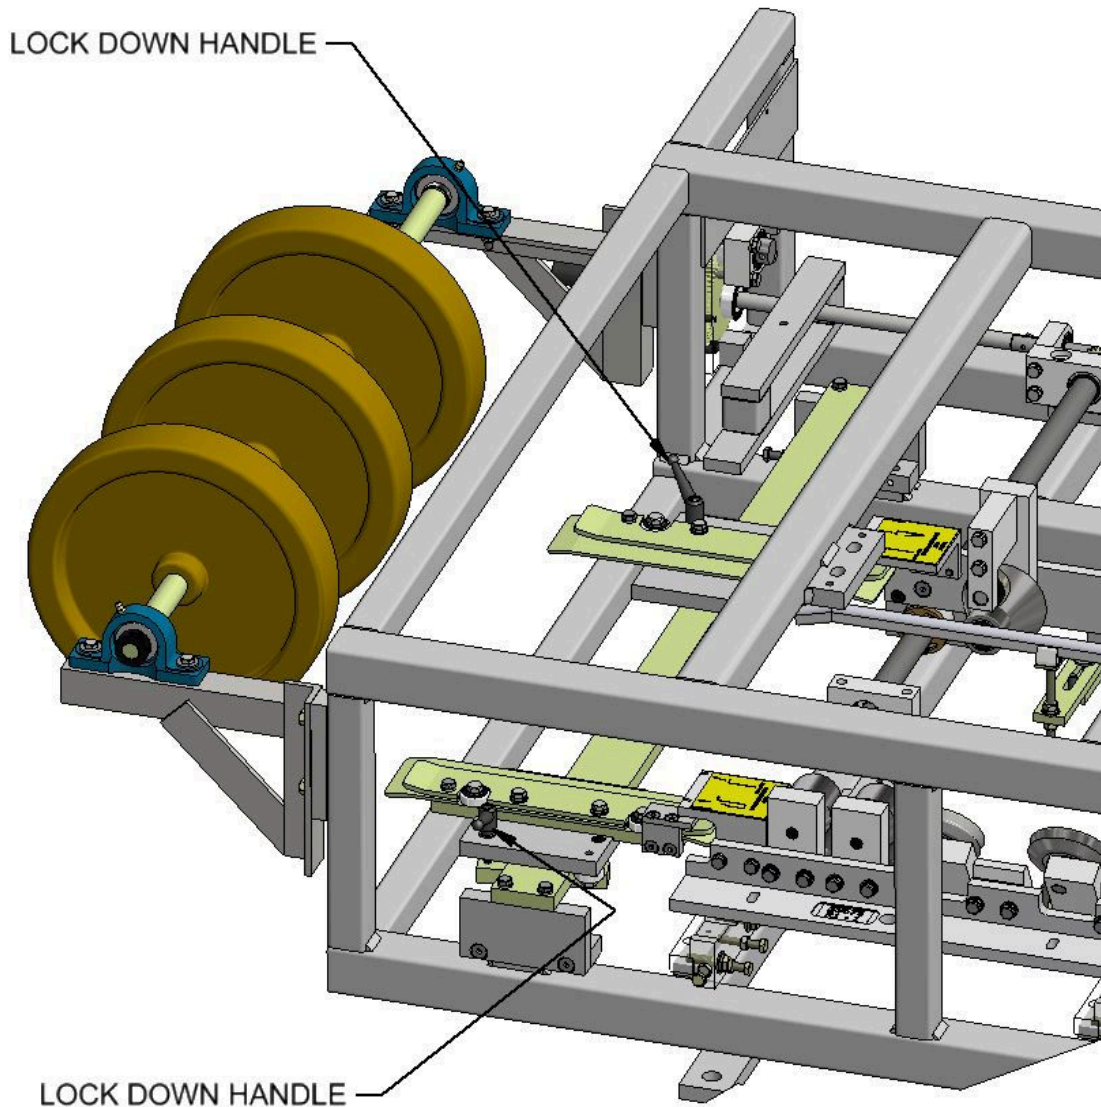
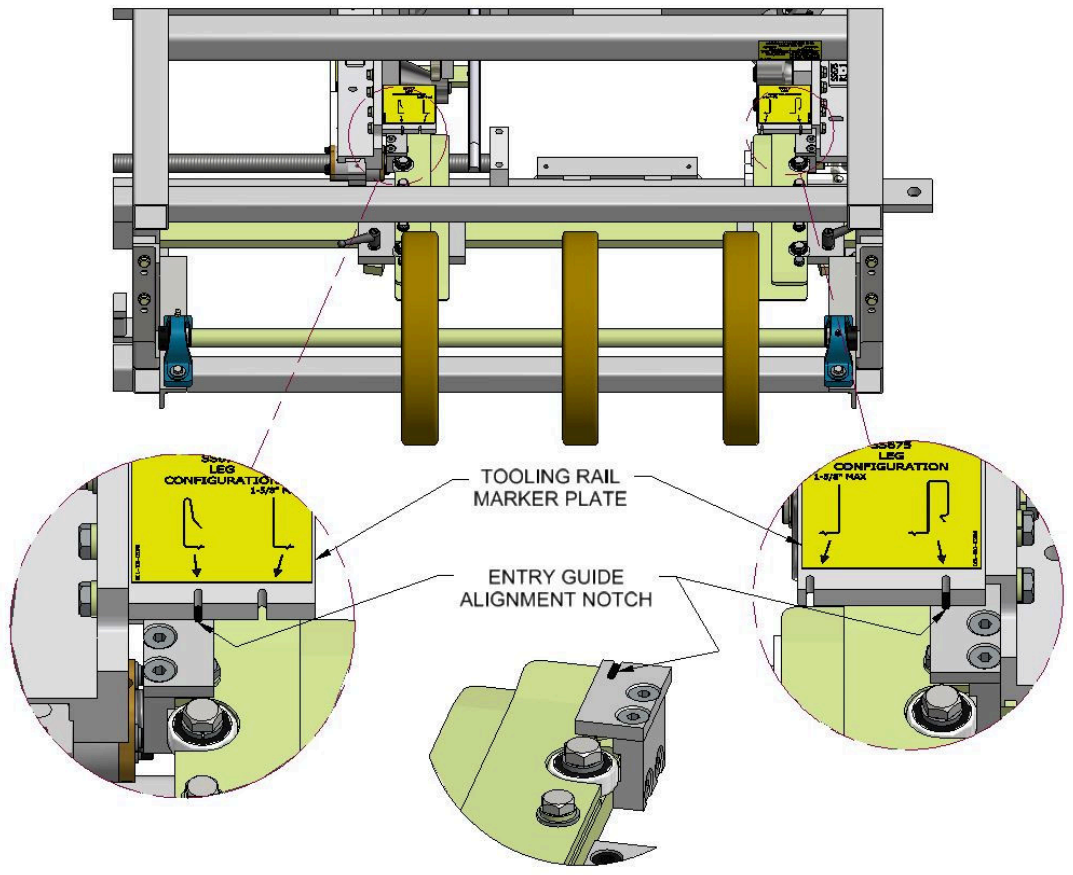

Figure 45: Entry Guide Lock Down Handles
Figure 46: Entry Guide Alignment
(Figure 45 & Figure 46)
2. To align, loosen the Lock Down Handle on the Right Entry Guide (Figure 45). Slide the entry guide to the left or right until the Entry Guide Alignment Notch is directly under one of the notches on the Tooling Rail Marker Plate. Make sure to choose the notch on the Marker Plate that corresponds to the desired leg configuration as noted on the decal on the top of the Marker Plate. (Figure 46)